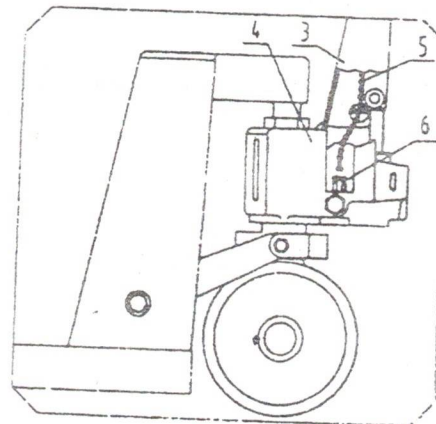

Fig2
3.3 Turn Axle Pin(2) to make vertical the axis of the big pore in Axle Pin. Cross Roller Chain(5) of Handle through the pore in Axle Pin(2) See Fig2.
- 3.4 Put screw and Nut at the end of Roller Chain(5) into the slot of Lever Pad (6) See Fig 2 and 5.